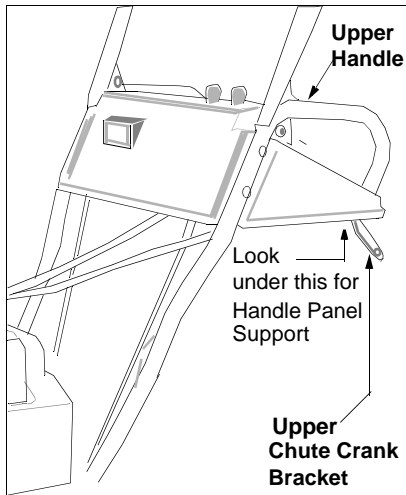

Figure 5
- On the left side of the handle panel, place the upper chute crank bracket on to the inside of the handle panel support. See Figure 5. You will find this bracket and associated hardware in group F of hardware pack.